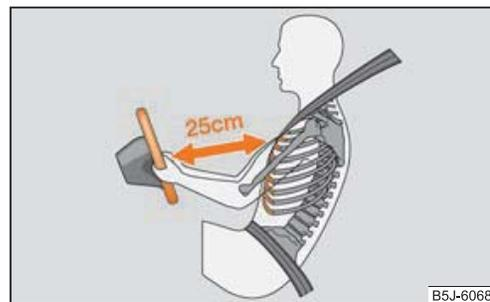

Fig. 117 Safe distance to steering wheel
- For the driver and front passenger it is important to maintain a distance of at least 25 cm from the steering wheel or dash panel ⇒ fig. 117. Not maintaining this minimum distance will mean that the airbag system will not be able to properly protect you - hazard! The front seats and the head restraints must always also be correctly adjusted to match the body size of the occupant.